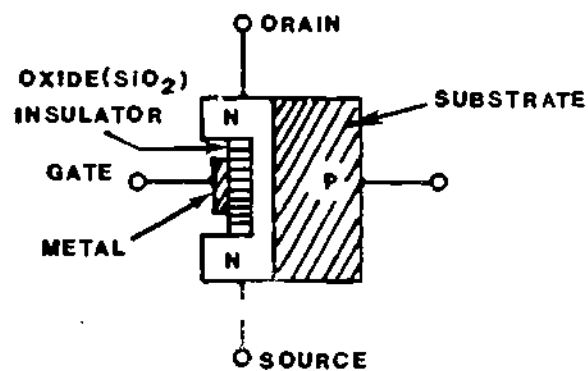

Figure 16
- (17.) Some of the important design features of MOSFETs now will be discussed. Figure 16 shows an illustration of the components in a typical N-channel MOSFET.